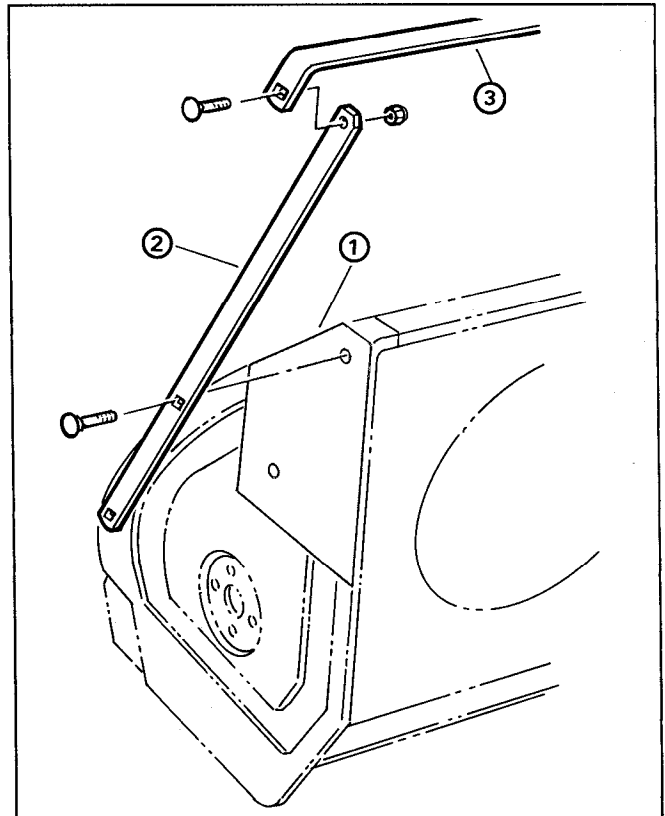

Figure 1
2. Position template (printed side out) on right side of auger housing aligning dotted line (previously cut) edge with top of auger housing and right side of template with front edge of housing. Secure template in place with tape and center punch each hole location (Fig. 1).